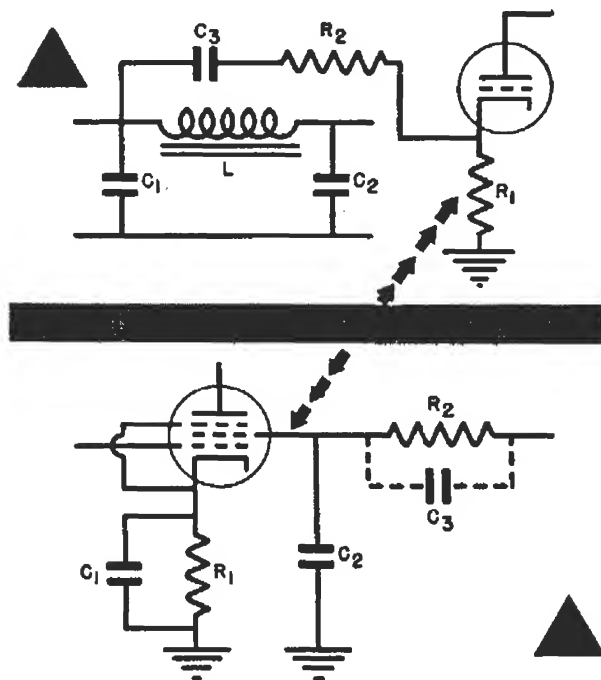

FIG. 16. Two methods of hum bucking.
► Fig. 16 shows two ways to buck or cancel out hum by deliberately introducing an out-of-phase hum into the hum-producing circuit.